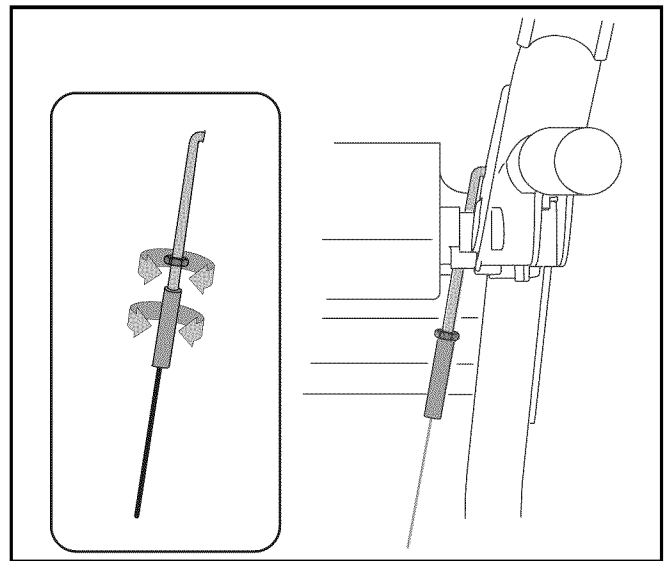

Figure 4
- Loosen the hex jam nut on the auger control cable “Z” fitting and rotate the coupling end of the cable downward to provide more slack or upward to take up slack. See Figure 4.